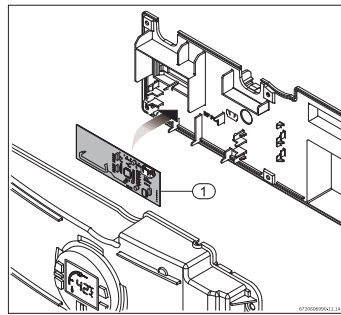

Fig. 8
- ▶ Place the remote control PCB in the back cover of the control unit as shown in Fig. 8.